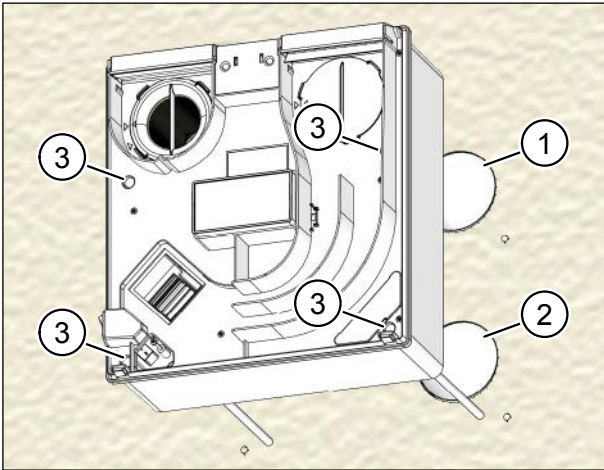
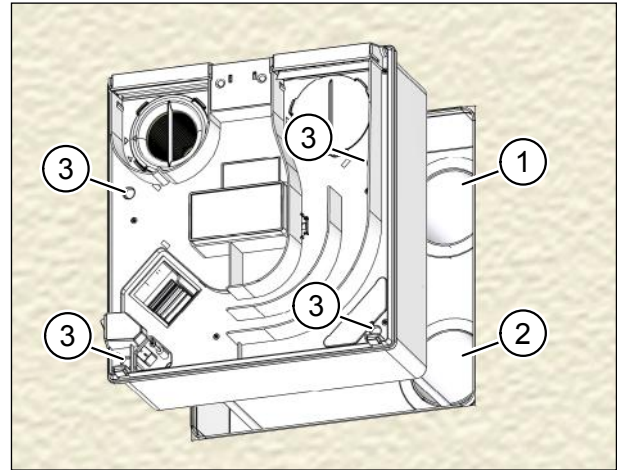

Fig. 27: Fixing the ventilation unit – surface-mount installation
Fig. 28: Fixing the ventilation unit – flush-mount installation
- ▶ Attach the ventilation unit so that the ventilation connecting pieces are lined up with the outdoor air pipe (item 1 in Fig. 27 and Fig. 28) and exhaust air pipe (item 2 in Fig. 27 and Fig. 28).
- ▶ Use the four cross-head screws (item 3 in Fig. 27 and Fig. 28) to fix the ventilation unit. **Lightly** tighten the screws using a diagonal sequence.